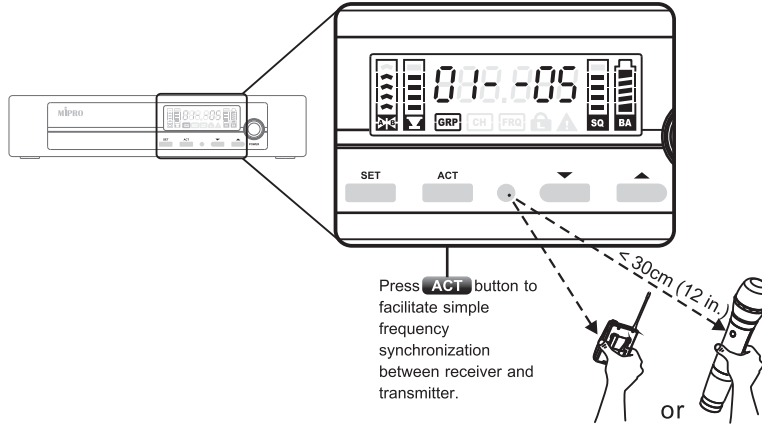

Fig. 18
- (1) The purpose of Lock function is to lock and prevent accidental changing of settings once programmed.
- (2) To Lock: Press and hold the 'SET' button until the Lock icon appears.
- (3) To Unlock: Press and hold the 'SET' button until the Lock icon disappears.
(G) ACT synchronization setting. Fig. 18